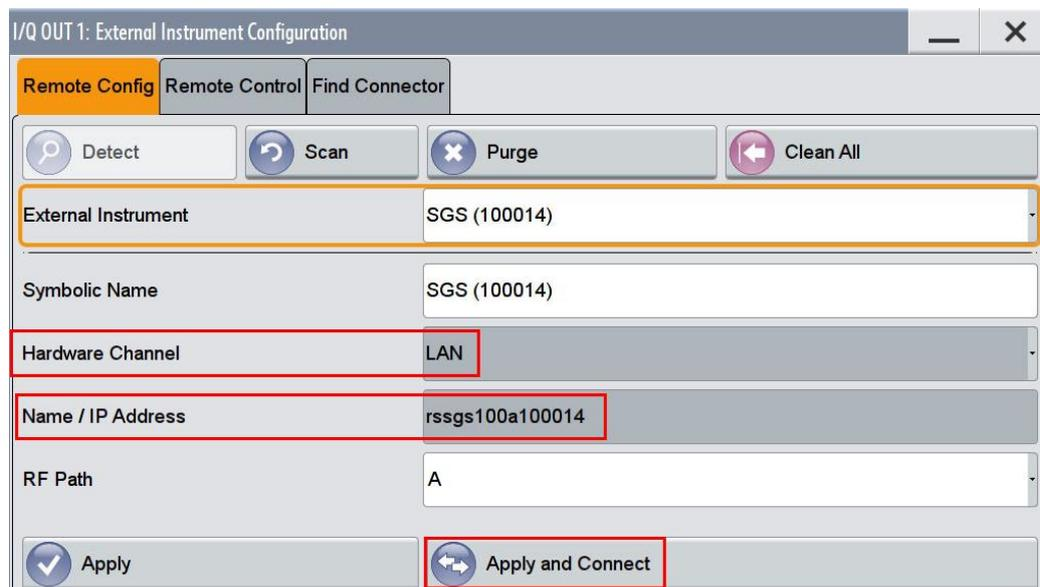

Fig. 3-22: Choose an external instrument
- Select the wanted instrument under **External Instrument**. Check the shown settings and click **Apply and Connect**. The reference path is RF A. (Fig. 3-22)